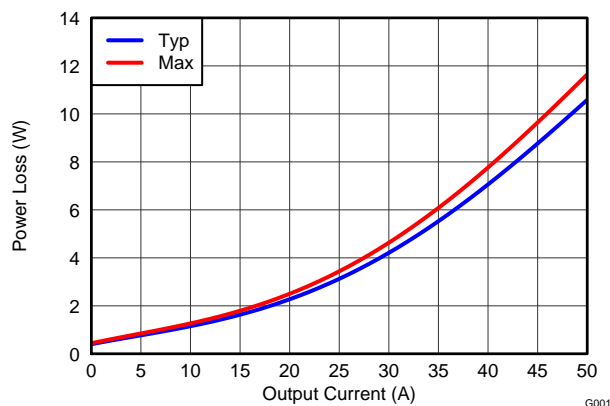
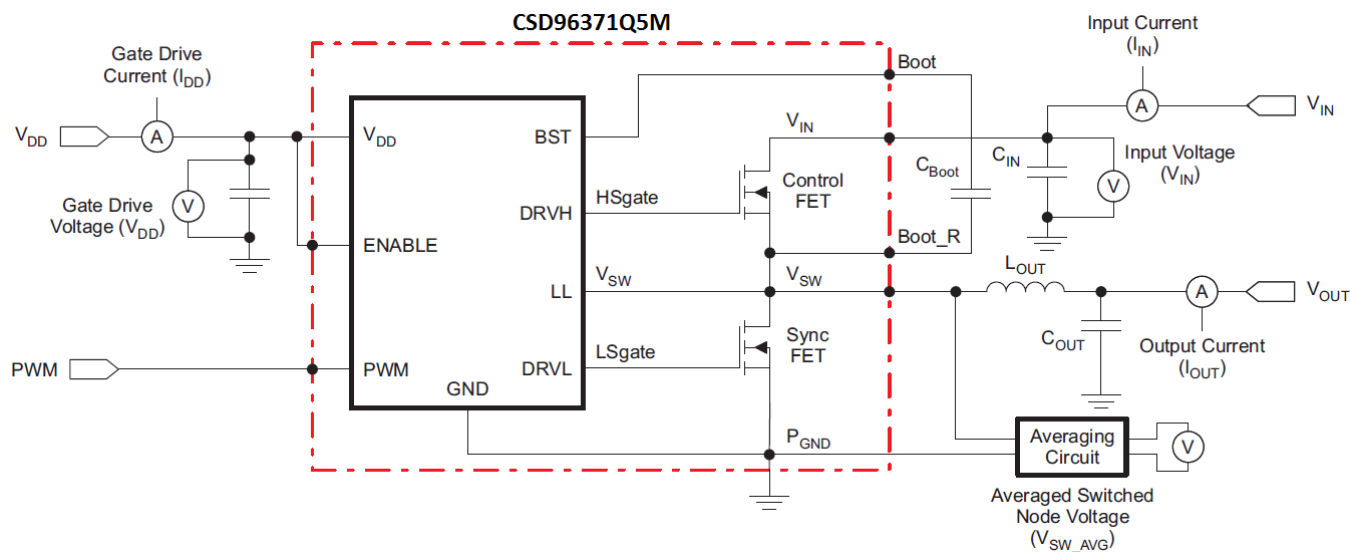

Figure 7. Power Loss vs Output Current
Figure 18. Power Loss Test Circuit
MOSFET centric parameters such as $R_{DS(ON)}$ and Q_{gd} are primarily needed by engineers to estimate the loss generated by the devices. In an effort to simplify the design process for engineers, Texas Instruments has provided measured power loss performance curves. Figure 7 plots the power loss of the CSD96371Q5M as a function of load current. This curve is measured by configuring and running the CSD96371Q5M as it would be in the final application (see Figure 18). The measured power loss is the CSD96371Q5M device power loss which consists of both input conversion loss and gate drive loss. Equation 1 is used to generate the power loss curve.
The power loss curve in Figure 7 is measured at the maximum recommended junction temperature of $T_J = 125^\circ\text{C}$ under isothermal test conditions.
- Power Loss at 25A = 3.1W (Figure 7)